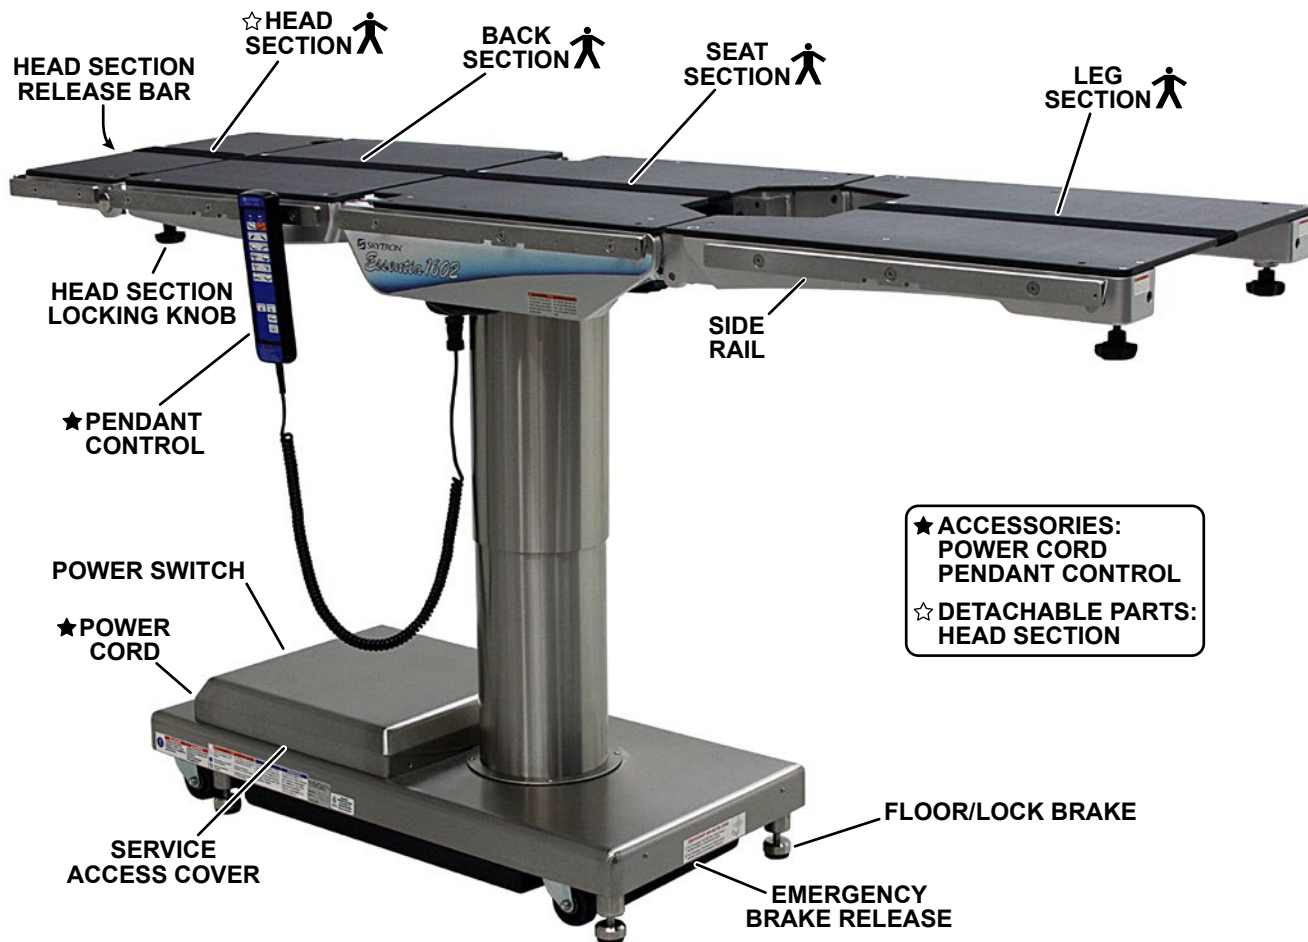

Figure 3. 1602 Surgical Table
SKYTRON's 1602 ESSENTIA Surgical Table is an electro-hydraulic operated, general purpose surgical table (Figure 3).
The floor lock/brake system consists of four (4) self-leveling, hydraulic brake cylinders which raise and support the table base off from the casters (Refer to Figure 3).